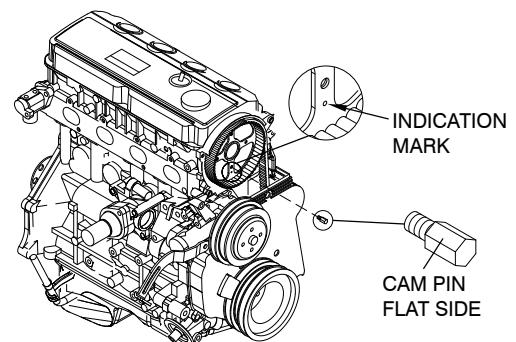

Figure 13
2. Remove the cam pin from the camshaft pulley (see Figure 13).
5. Apply Loctite (blue 232 removable) to the cam pin threads and lightly screw the cam pin into the camshaft pulley. Tighten the cam pin hand tight and then turn one flat side to the right (see Figure 13).